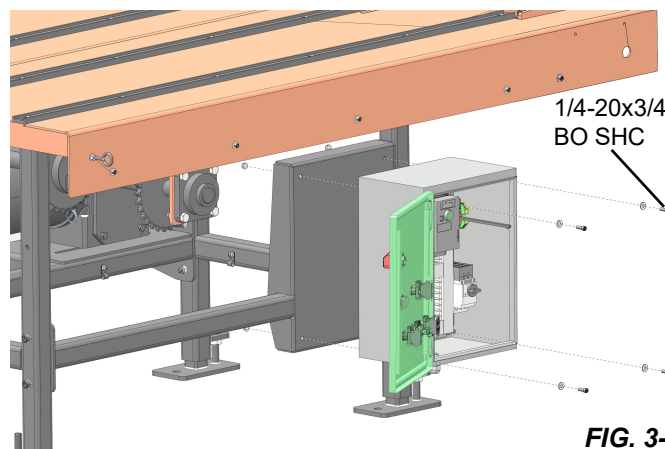

FIG. 3-9
- Mount the electrical box to the frame by the 4 bolts at the inside corners of the box as shown in FIG. 3-9.